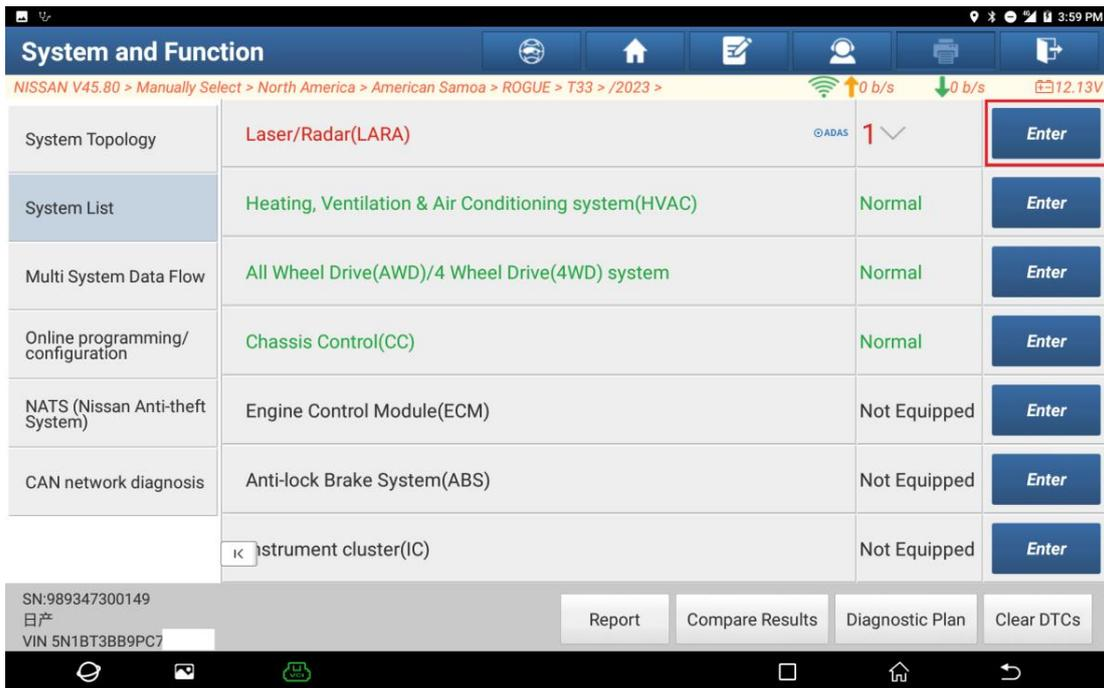

Figure 3
- Choose [System List] and then choose [All Wheel Drive (AWD)/4 Wheel Drive (4WD) System] (as shown in Figure 3).